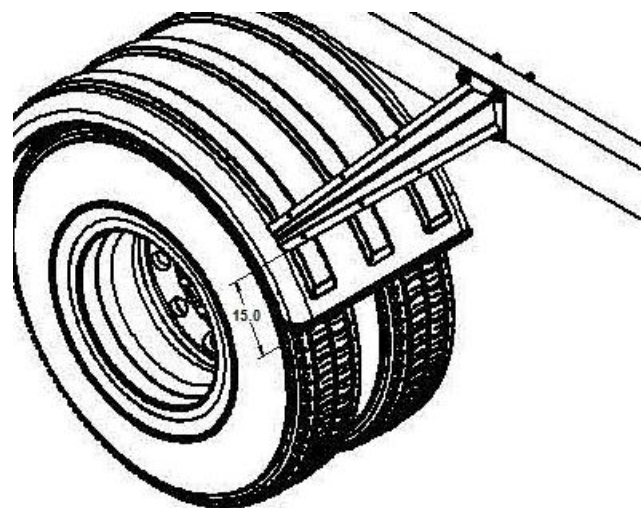

Figure 6
- C. If possible, position the mounting brackets so they are located within 15" of the bottom of the fender. This guards against wind blowing the leading edge of the fender back into the tire (Figure 6).